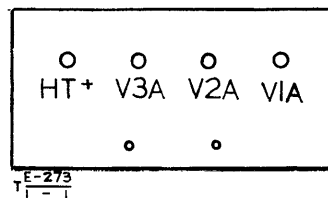

Fig. 1 - R.F. chassis voltage test panel
R.F. chassis voltage test panel (Fig. 1)